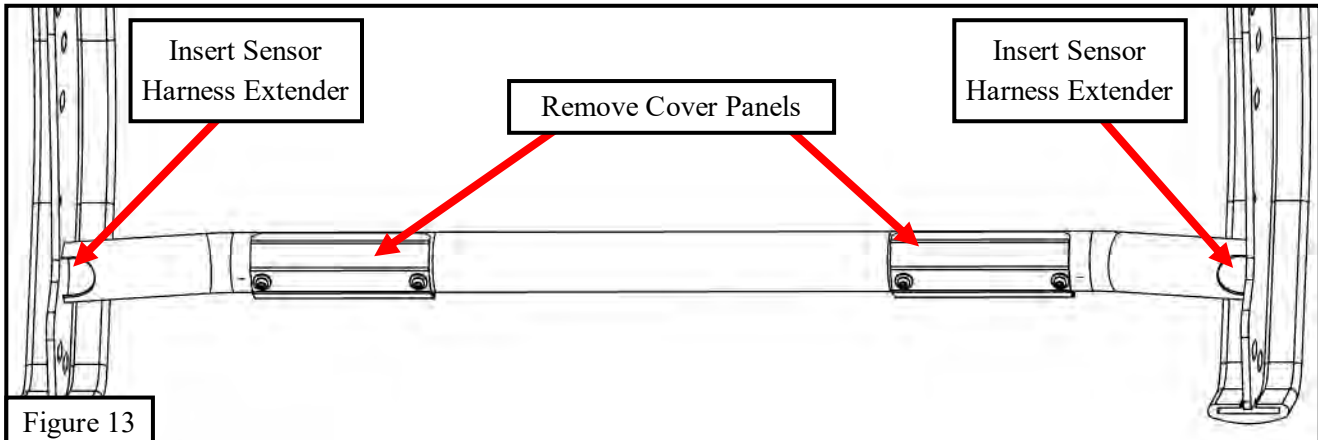
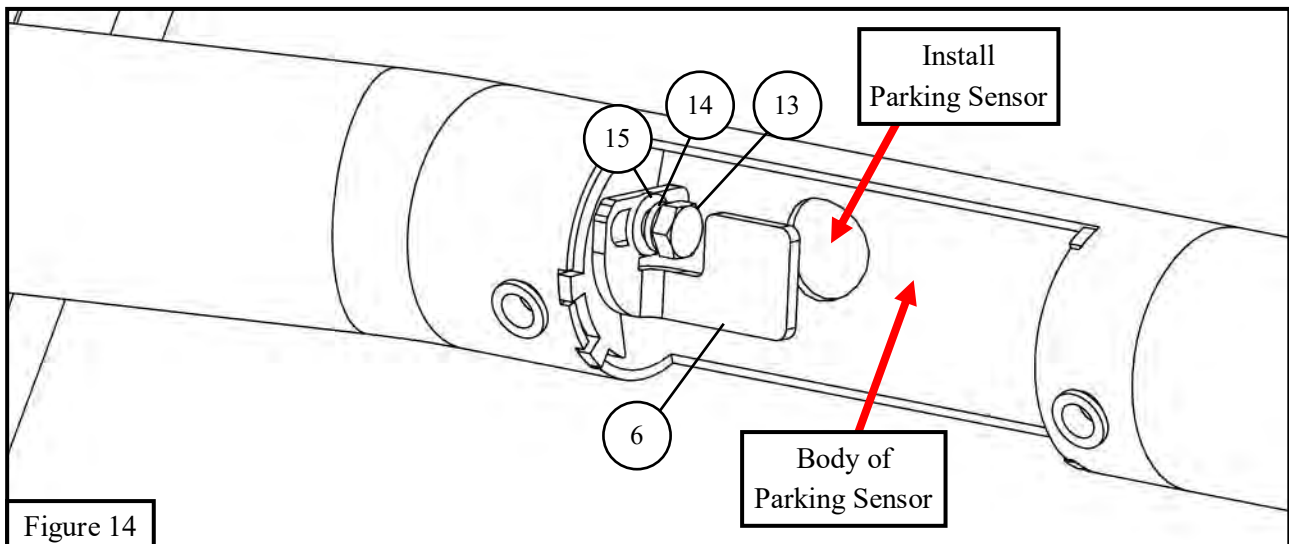

Figure 13
Figure 14
23. Remove the (2) center parking sensors from the front bumper.
24. Remove the cover panels and rubber hole plugs from the grille guard lower tube. See **Figure 13**.
25. Insert (1) sensor harness extender (**item 5**) into the lower grille guard tube. Place one end of the harness extender in the space behind the cover panel. See **Figure 13**.
26. Place (1) piece of double sided tape (**item 20**) on the back of each parking sensor.
27. Install the parking sensors using the M6 hardware (**items 13-15**) and the sensor L-brackets (**items 6-7**). See **Figure 14**.